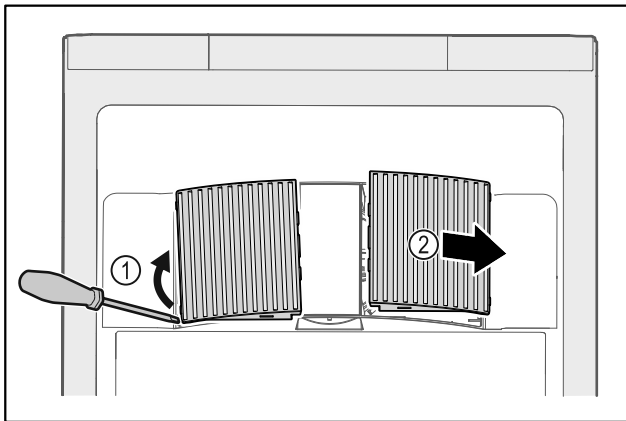

Fig. 104
- ▶ Carefully lever out fan covers from the side Fig. 104 (1) and remove towards the front Fig. 104 (2).